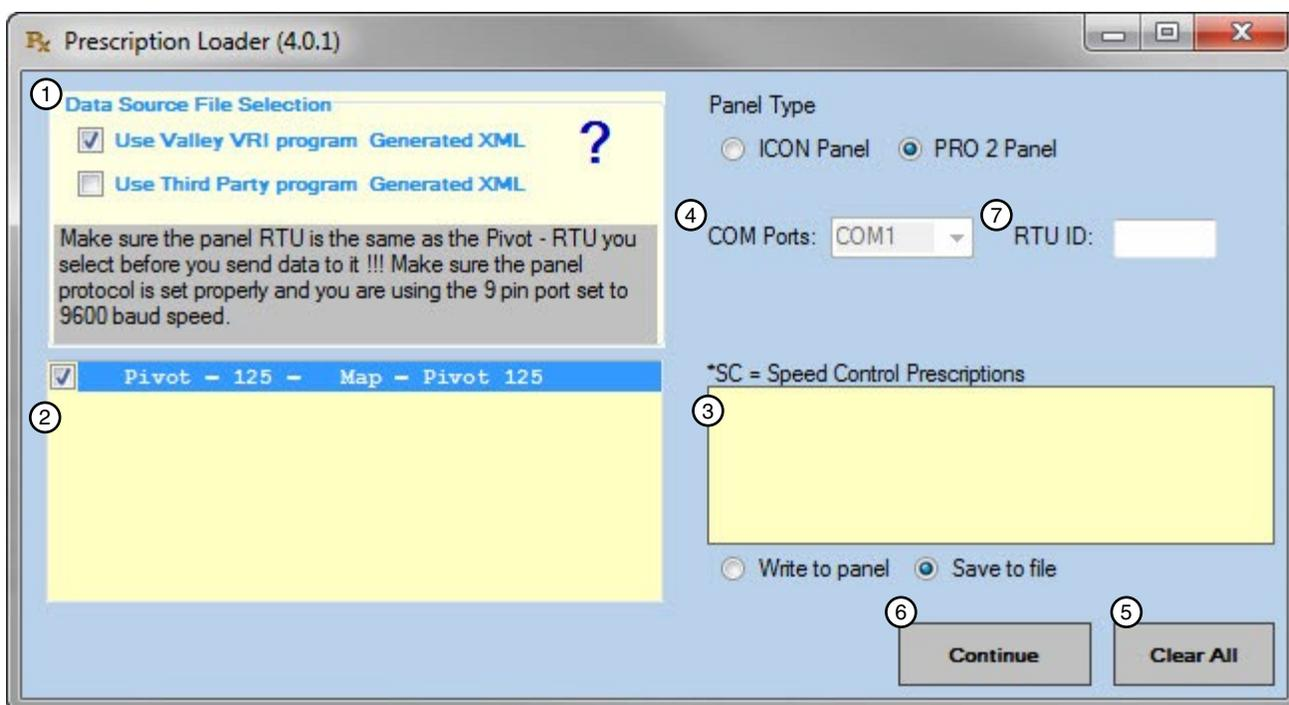

Figure 43-1 1. Data Source File Selection 3. Prescription Disposition Area 5. Clear All Button 7. RTU ID
6. Enter the RTU ID of the panel. This will be used instead of the number created prescription software. See Figure 43-1.
7. Select one of the following by clicking on the appropriate checkbox: See Figure 43-1.
8. If you are writing to the panel, select the COM port to be used in the drop-down menu. See Figure 43-1.
9. Click **Continue** to be taken to the next screen. See Figure 43-1.